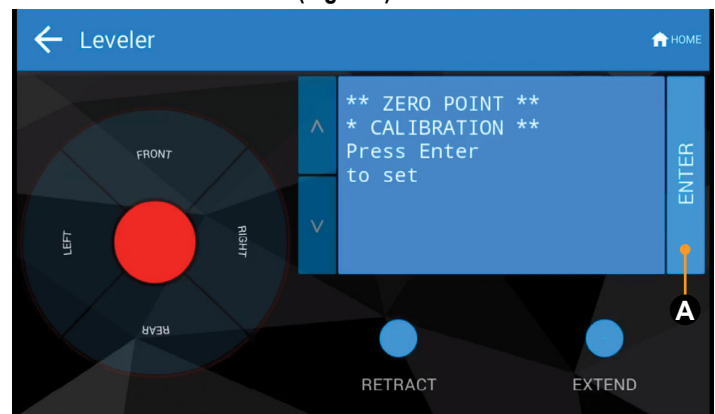

Fig.52
8. The touch panel will present options for further leveling of the trailer if needed. The screen will also state “ZERO POINT CALIBRATION - Press Enter to Set” (Fig.52).